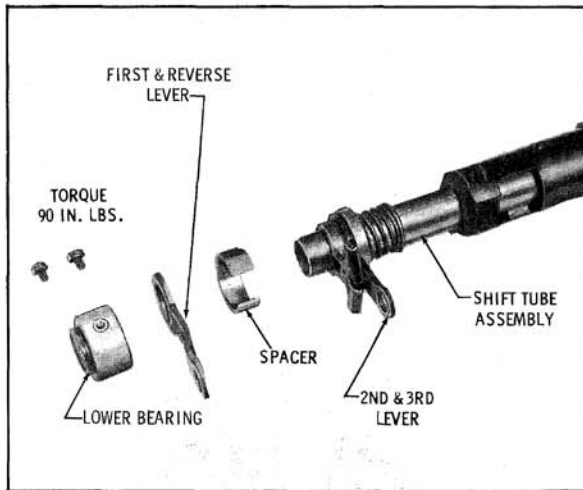
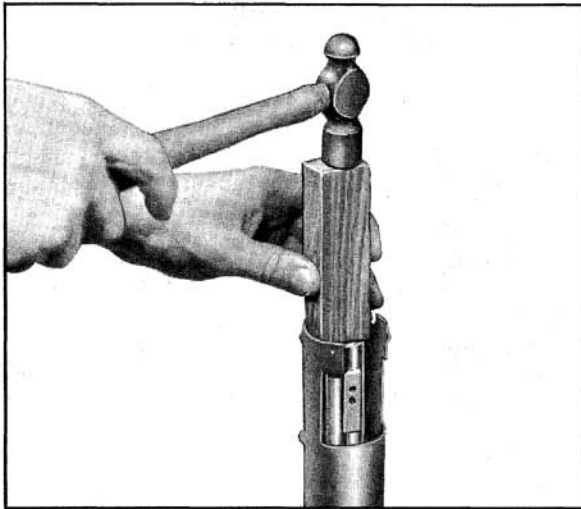

Fig. 8-85 Lower Column - Synchromesh
Fig. 8-86 Removing Shift Tube (Synchromesh)
3. Synchronesh transmission: Remove parts shown in Fig. 8-85. It may be necessary to tap the shift tube from the mast jacket. (Fig. 8-86)
1. Install parts shown in Fig. 8-85.